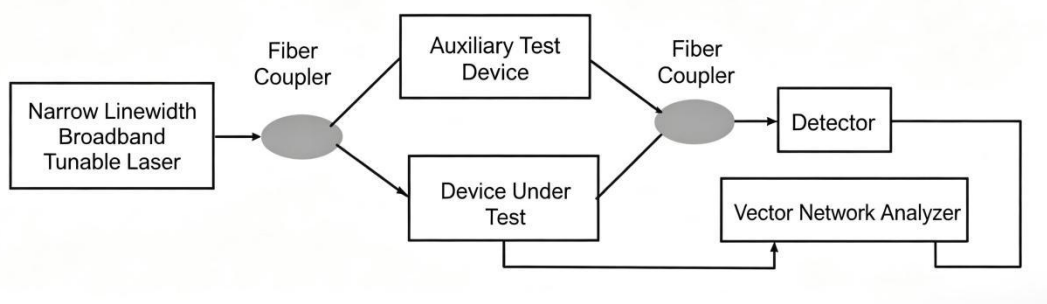

Figure 4 Block Diagram of the Test Setup for Bandwidth (S21)
- Connect the system as shown in Figure 4.